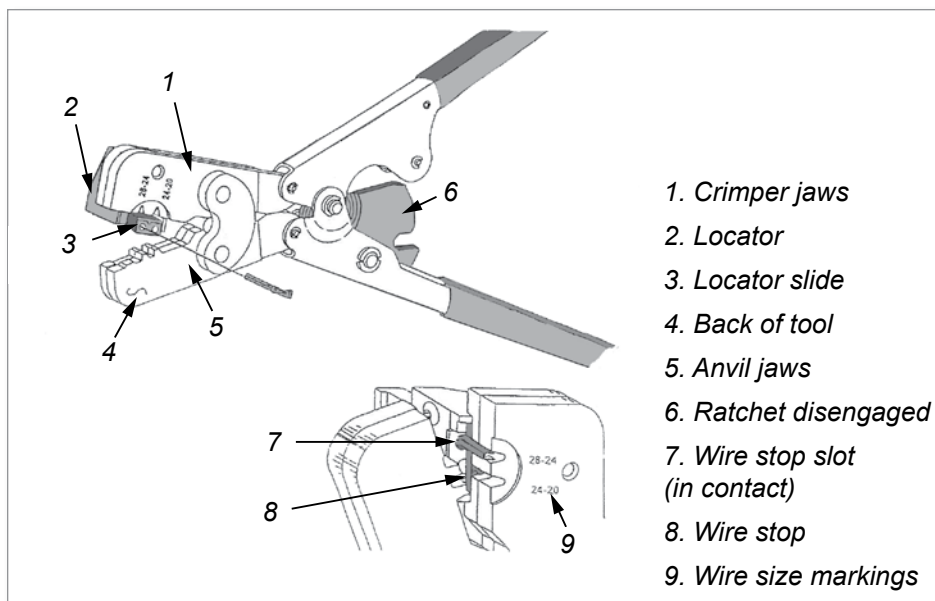

Figure 19-34 Crimping tool
- crimping tool - see Figure 19-34